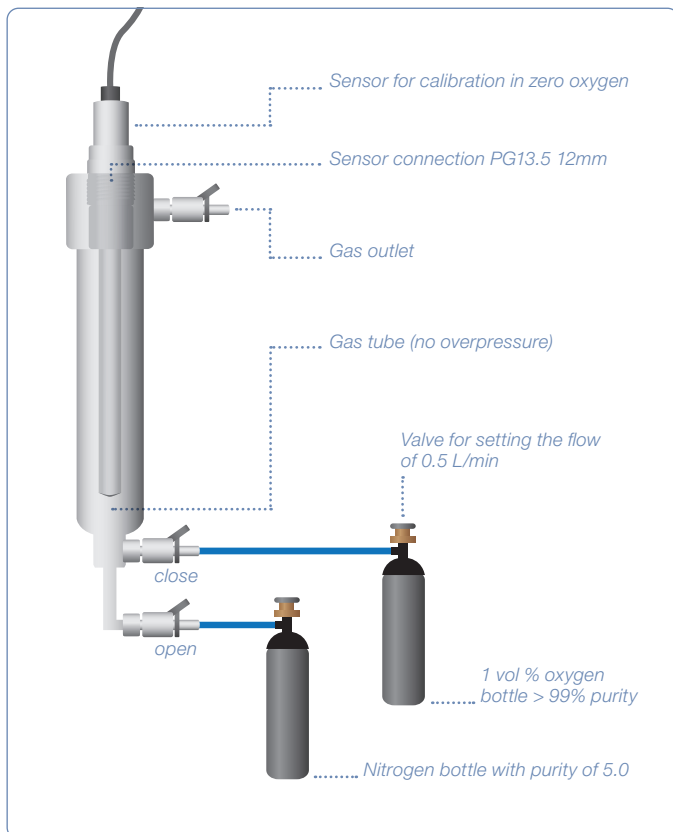

Figure 13: Zero point calibration setup
- 1) Install the sensor into the calibration station and connected the Nitrogen calibration gas (Figure 13).
- 6) Immerse the sensor into an oxygen-free environment (Figure 13) for e.g. nitrogen. Verify that the flow rate does not exceed 0.5 L/min and avoid overpressure.